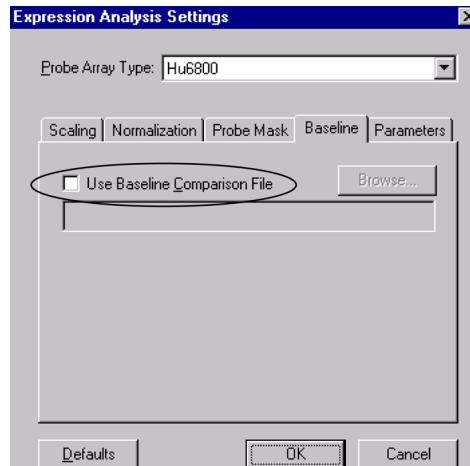

Figure 4.1.6
⇒ The Expression Analysis Settings dialog box appears (Figure 4.1.6), if chosen as a default option (see *Microarray Suite Default Settings Dialog* on page 4.1.15).
2. Click the **Baseline** tab and verify that the **Use Baseline Comparison File** option is cleared (Figure 4.1.6).